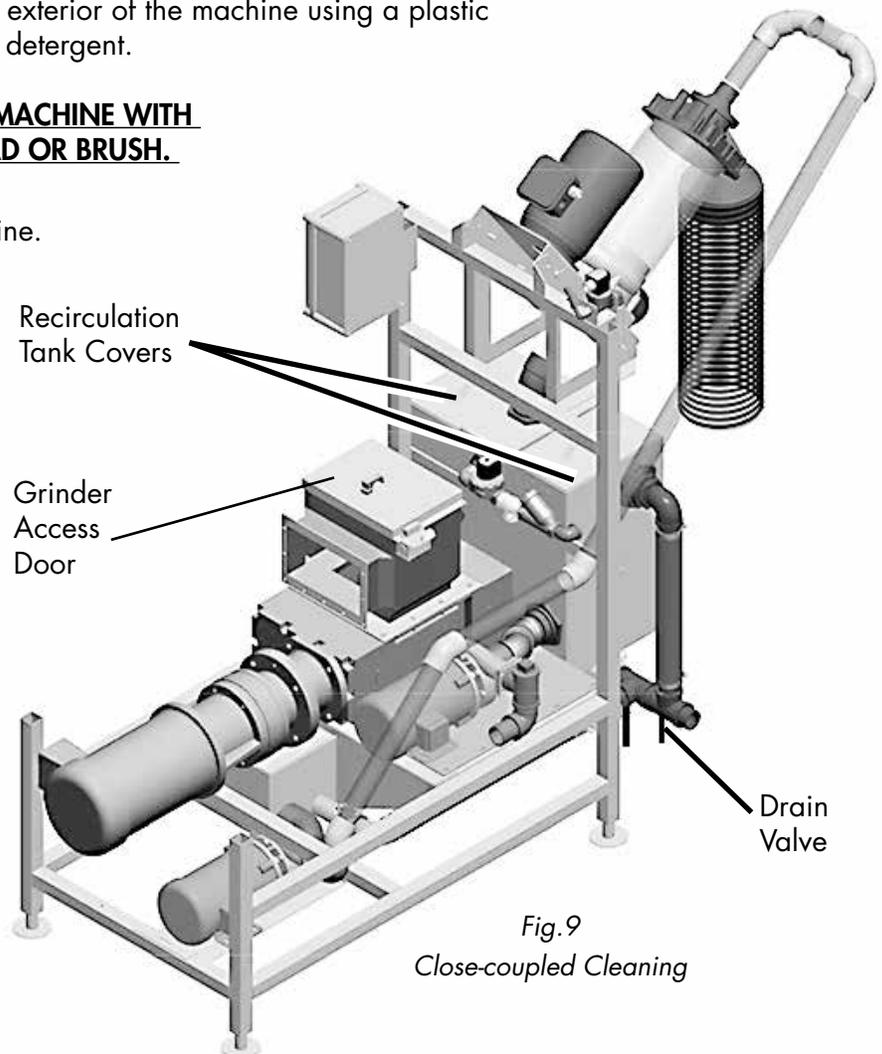

Fig.9
1. The system must be thoroughly cleaned at the end of the day to prevent odors and ensure the centrifuge and pumps remain in good working order. Refer to Fig. 9 below.